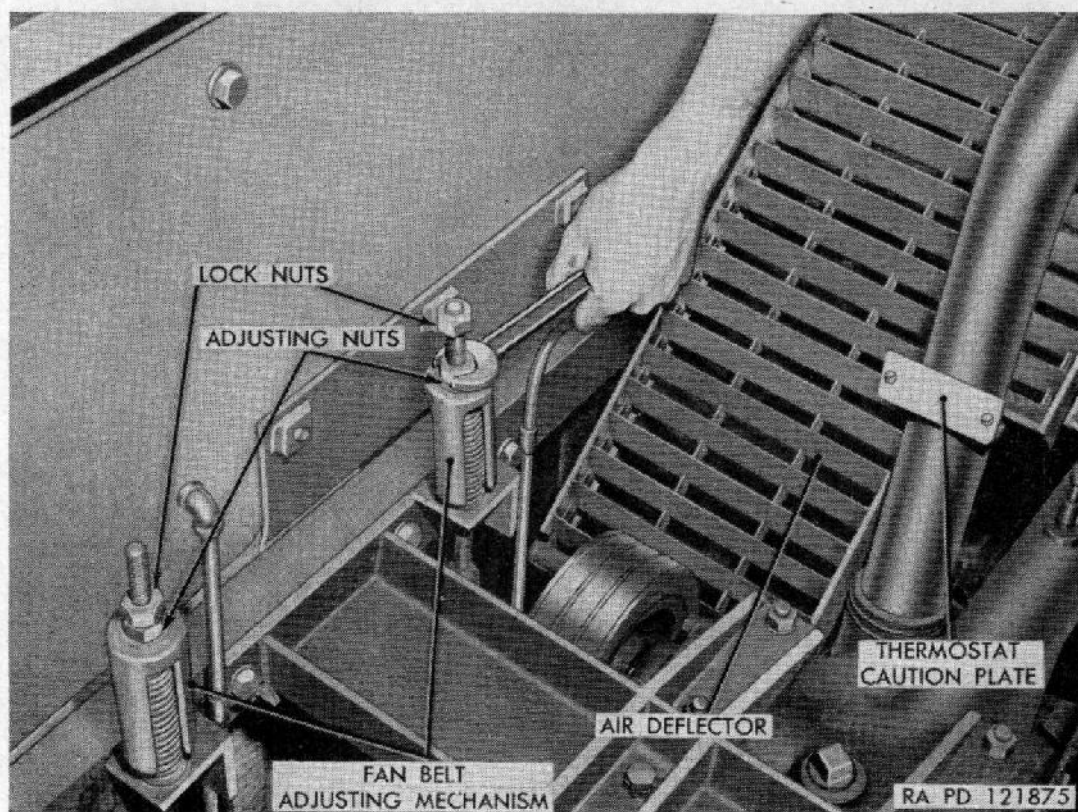
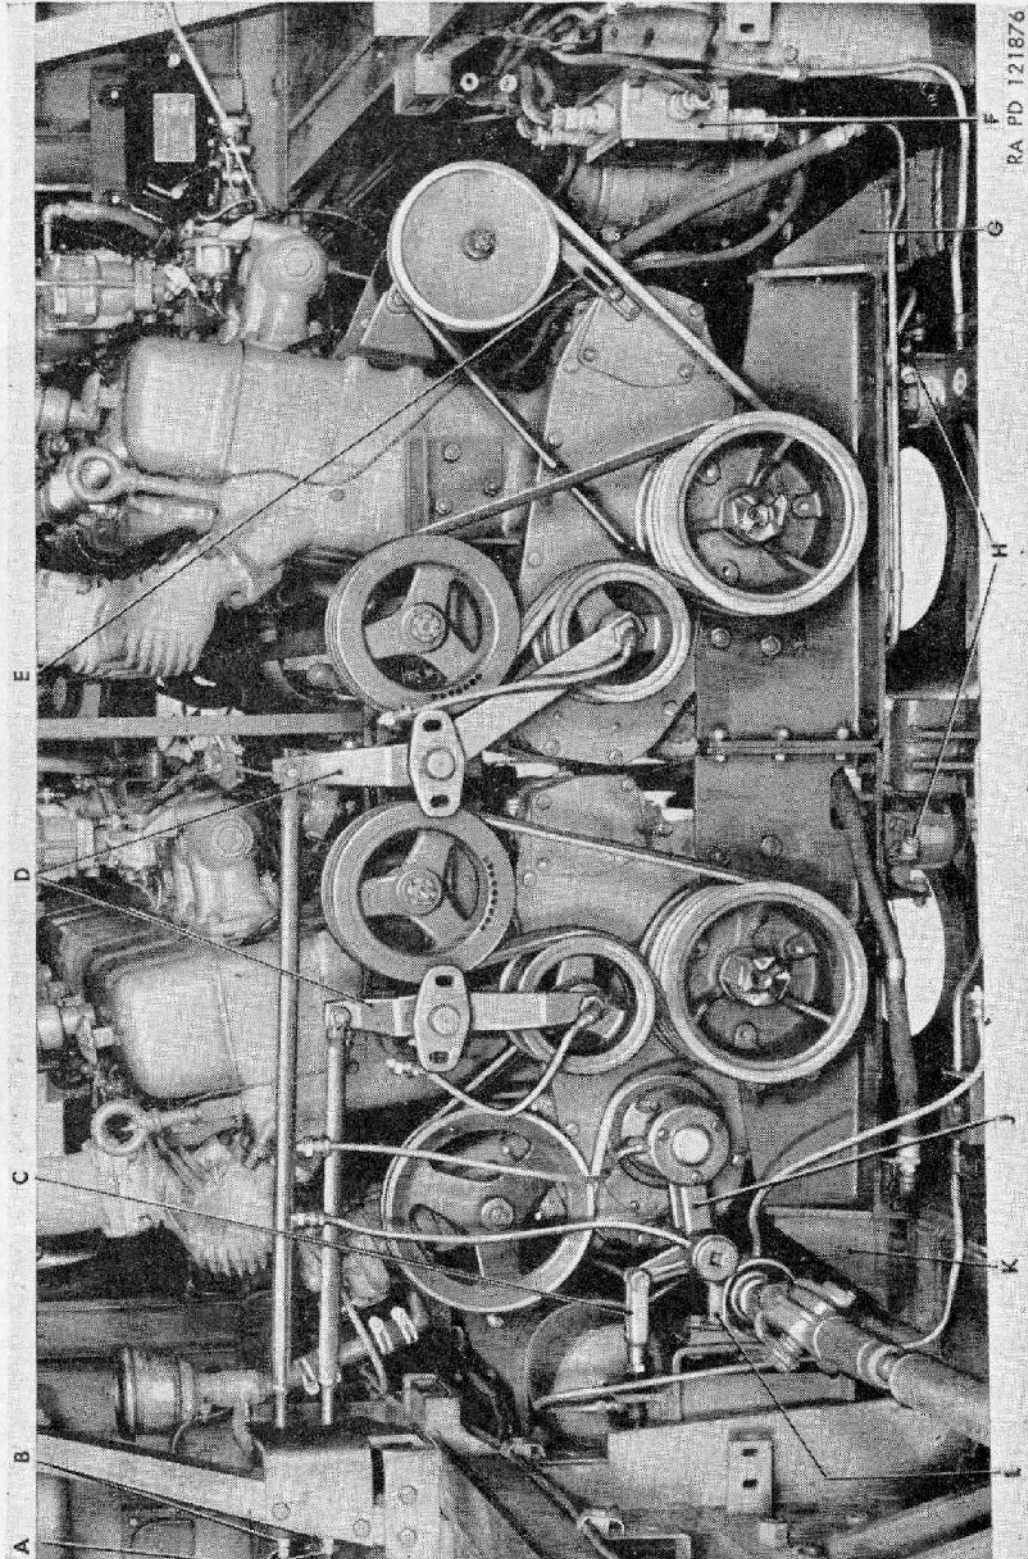

Figure 26. Adjusting fan belt tension.
Figure 27. Fan, air compressor, and generator drive belt arrangement.
doors (fig. 26). Loosen lock nut and turn adjusting nut clockwise (fig. 26) until the bottom of sleeves are compressed over the springs approximately one-quarter inch from the stop plate. The fan belts are properly adjusted when a $\frac{3}{4}$ -inch finger pressure deflection is obtained when pressure is applied to the belt. The fan drive belts at rear of engines are reached through the left engine compartment door (fig. 27). Loosen lock nut and turn adjusting nut clockwise until five-eighths of an inch clearance between end of sleeves and rod brackets is obtained, or a $\frac{3}{4}$ -inch finger pressure deflection is obtained when pressure is applied to the drive belts. The belts that drive the cooling fans, the generator, and the air compressor are interchangeable.
b. Replacement of Cooling Fan Belt and Fan Drive Belts. To remove the cooling fan belts, open engine top hood grille door and release adjusting rod tension by removing lock nut (fig. 26). Turn the adjusting nut counterclockwise until there is no tension on the belts. Remove the rear compartment seat backs and rotate the fan assembly while the belts are being slipped off the pulleys (fig. 63). Install new fan belts on the drive pulley and, while rotating the fan assembly, install the belts on the fan drive pulley. To remove the cooling fan drive belts, open left engine compartment door and release adjusting rod tension by loosening lock nut and adjusting nut (fig. 27). Rotate the fan drive pulley while the belts are being slipped off the pulleys. Install new belts on the lower drive pulley and, while the drive shaft
c. Generator Belt Adjustment. The generator is located at the rear of the right engine (fig. 44), near the right engine compartment door. To adjust generator drive belt, loosen cap screw on adjusting link below the generator (fig. 27) and apply pressure on generator until a $\frac{3}{4}$ -inch finger pressure deflection is obtained by using a straightedge across the two pulleys.